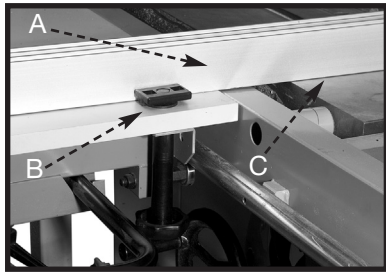
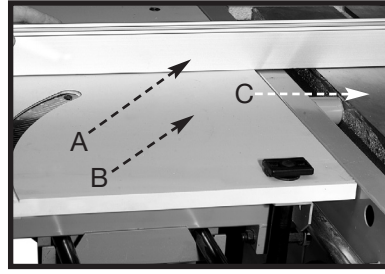

Fig. 49
Fig. 50
1. Use the fence (A) Figs. 49 and 50 or a suitable straight edge to see if the sliding table (B) is slightly higher than the machine table (C) at the front of the machine table (Fig. 49) and the rear of the machine table (Fig. 50).